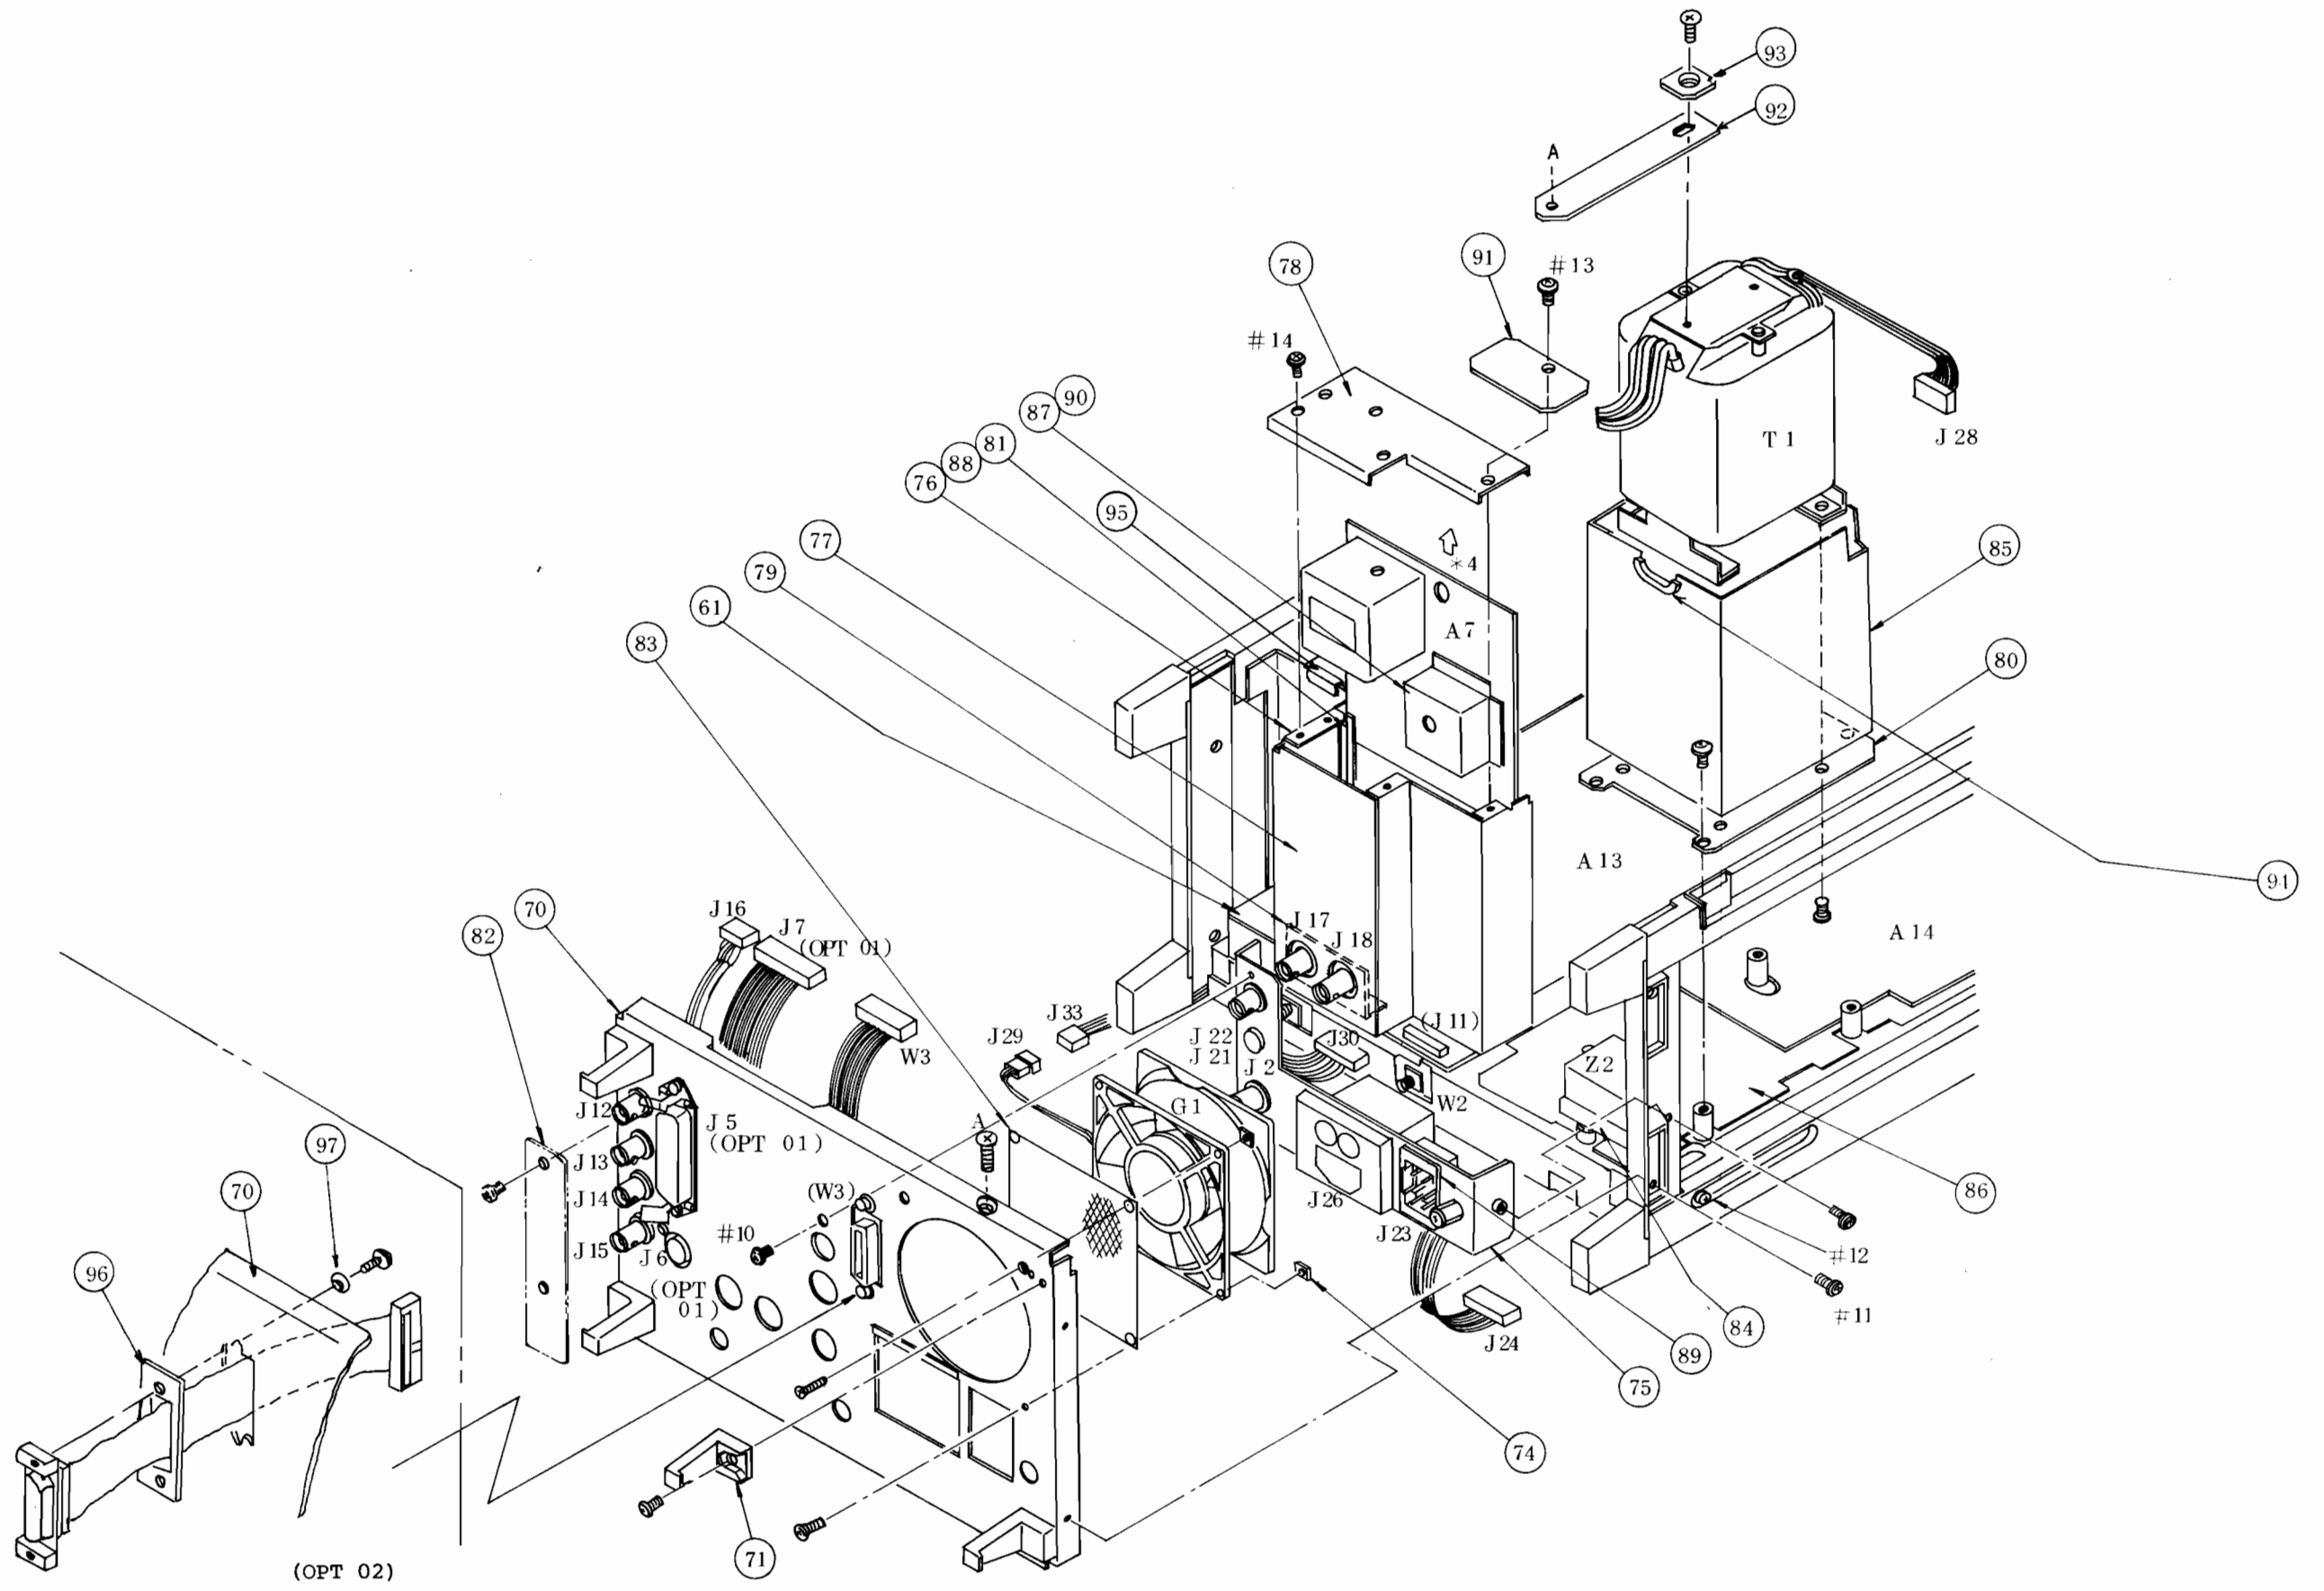

Fig. 2-4 Rear Panel Removal
2	Remove the rear panel (70) as described below by referring to Fig. 2-4. <ol style="list-style-type: none"><li data-bbox="472 657 1469 738">1) Remove the screw #10 at the center of the rear panel.<li data-bbox="472 770 1445 851">2) Remove the four screws (two at each side) #11 at the sides of the rear panel.<li data-bbox="472 883 1489 963">3) Remove the connectors J29, J16, J7 (OPT 01) and W3 connected to each unit.<li data-bbox="472 995 1449 1076">4) Remove the rear panel by sliding it backwards little by little.
2	Remove the A7 REF OSC as described below by referring to Fig. 2-4. <ol style="list-style-type: none">1) Remove the screw #13 and then the clamp (91) .2) Remove the three screws #14 and then remove the cover (78) .3) Pinch the part marked with *4 with pliers and lift it up.
2	Remove the screw #13 and then remove the clamp (91) by referring to Fig. 2-4.
Table 2-4 Mechanical Parts List for Fig. 2-4